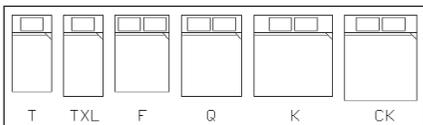

Figure 9. Define multiple options for a single dynamic block.
- One block with multiple definitions can drastically reduce the size of your block libraries. For example, one bed block, many options (Figure 9).